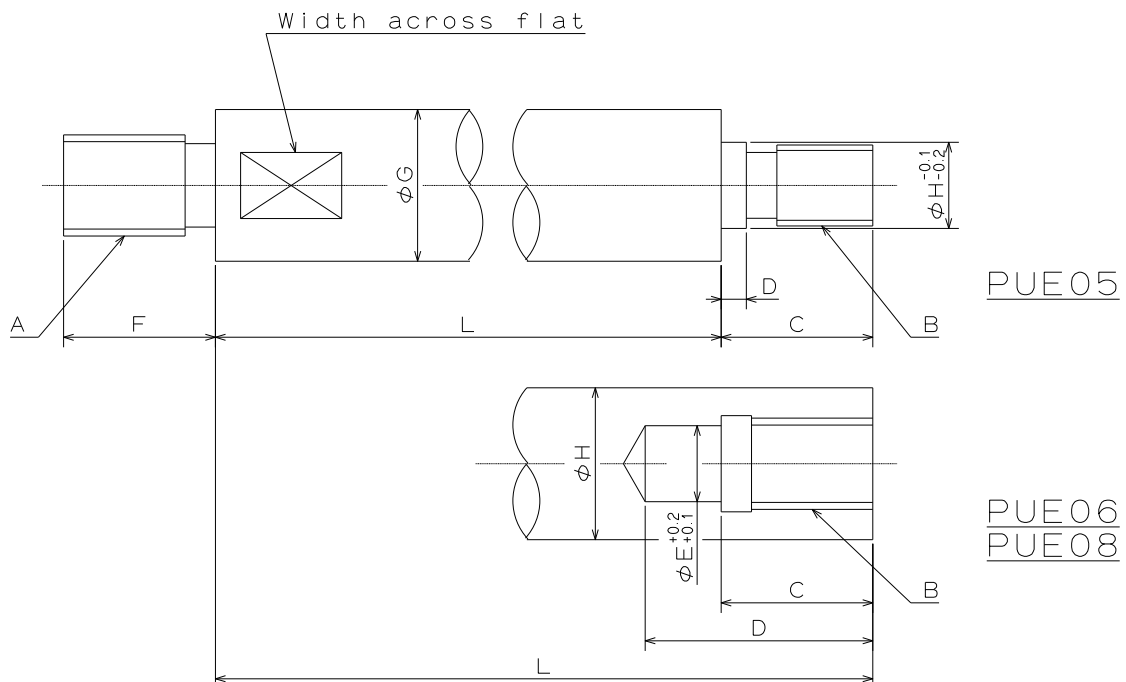

Fig.12
- Keep the dimension H in Fig. 12 for the draw bar and a material with the tensile strength 380MPa (38kgf/mm²) or more must be used.